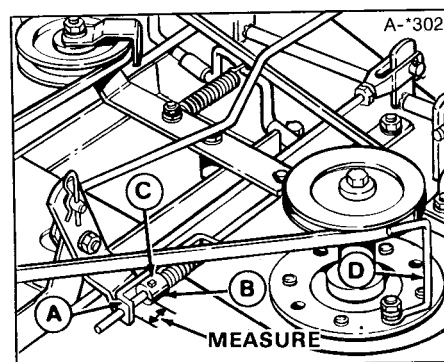
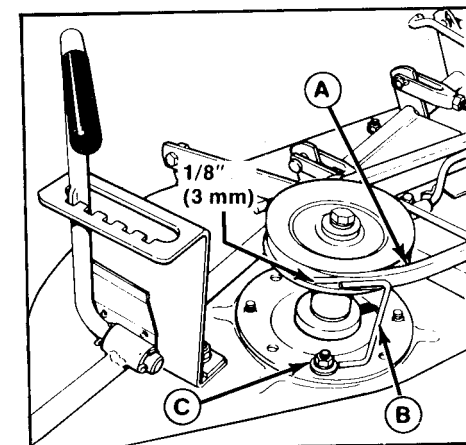

Figure 31. Drive Belt Tension
Figure 32. Right Arbor Belt Stop
mower in highest cutting position. Place the PTO lever in engaged position, the gap between the rod guide (A, figure 31) and the set collar (B) should measure 3/8 to 1/2 inch (10 to 13 mm). If not, disengage the PTO. Loosen the setscrew (C). Move the rod forward to increase the gap or back to decrease the gap then tighten the setscrew. Engage the PTO and recheck the adjustment. Readjust if necessary.
The arbor belt stops are item D in figure 31 and item B in figure 32. There should be 1/8 inch (3 mm) clearance between the belt stops and belt when the PTO lever is engaged. If not, loosen the nut, move the belt stop and retighten the nut.